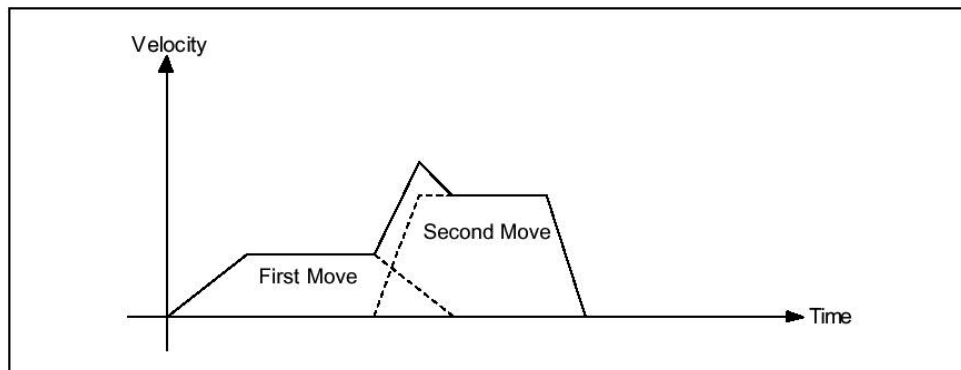

Figure 10: Blending with a Blend Factor of -1
A blend factor of zero (0) causes the pending move to start when the existing move fully completes its profile, as shown in Figure 10.